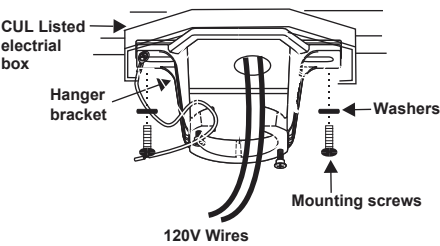

Figure 5
Step 1. Pass the 120-volt supply wires through the center hole in the ceiling hanger bracket as shown in Fig. 5.